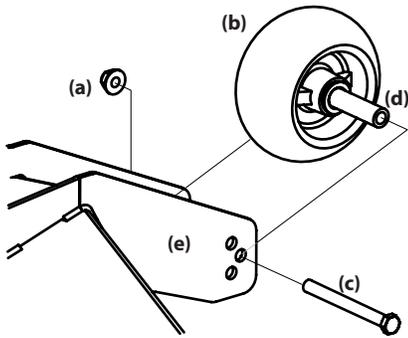

Figure 4-9
- Remove the lock nut (a) securing one of the front gauge wheels (b) to the deck. Remove the front gauge wheel (b), hex screw (c) and spacer (d). See Figure 4-9.